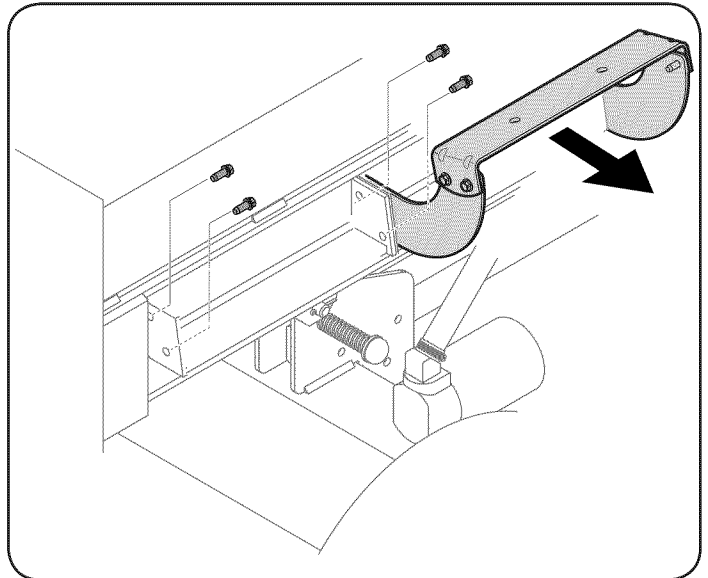

Figure 5
14. Disconnect the log cradle from the beam on the side of the control valve by removing the two hex washer screws that secure it to the beam and the two hex washer screws in the beam flange. The cradle is off-set for shipping purposes. See Figure 5.